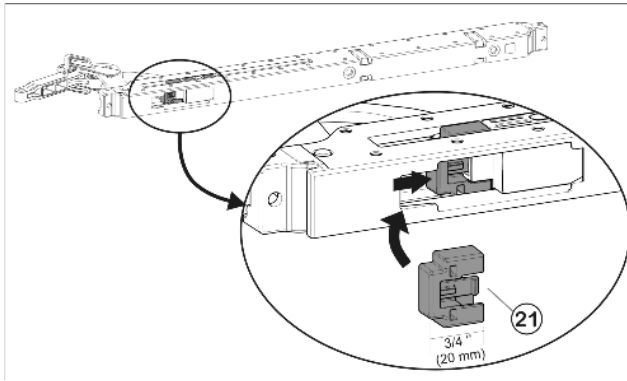

Fig. 37
- Fit opening limiter (90°) Fig. 37 (21) supplied: insert it into the soft stop mechanism from the side and push in until it audibly snaps into place.